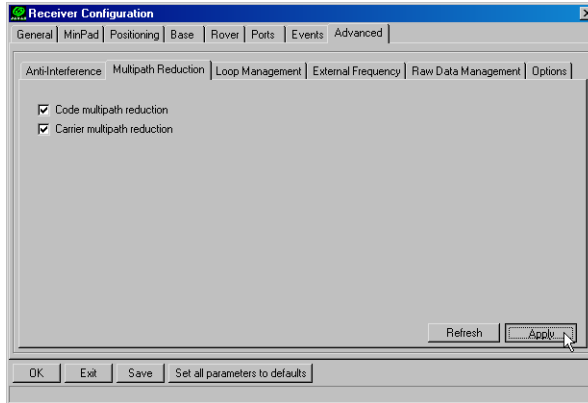

Figure 2-16. Advanced Configuration – Multipath Reduction
2. Click the Advanced tab on the Receiver Configuration screen and then click the Multipath Reduction subtab. Enable the following boxes, and click Apply (Figure 2-16).